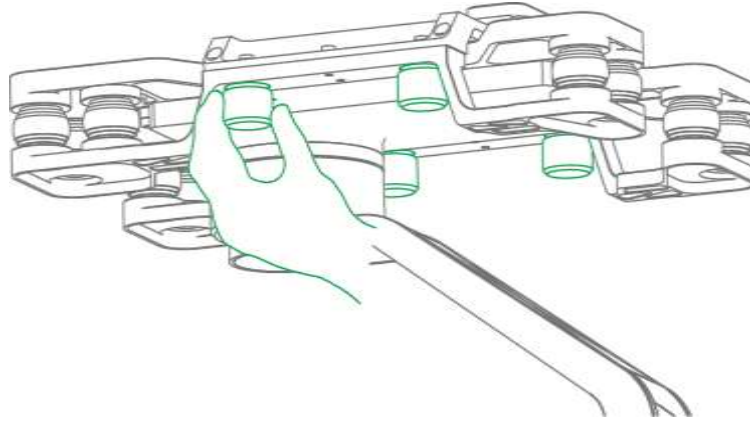

Figure 3-12
Step 1 Loosen four mounting screws, as shown in Figure 3-12.